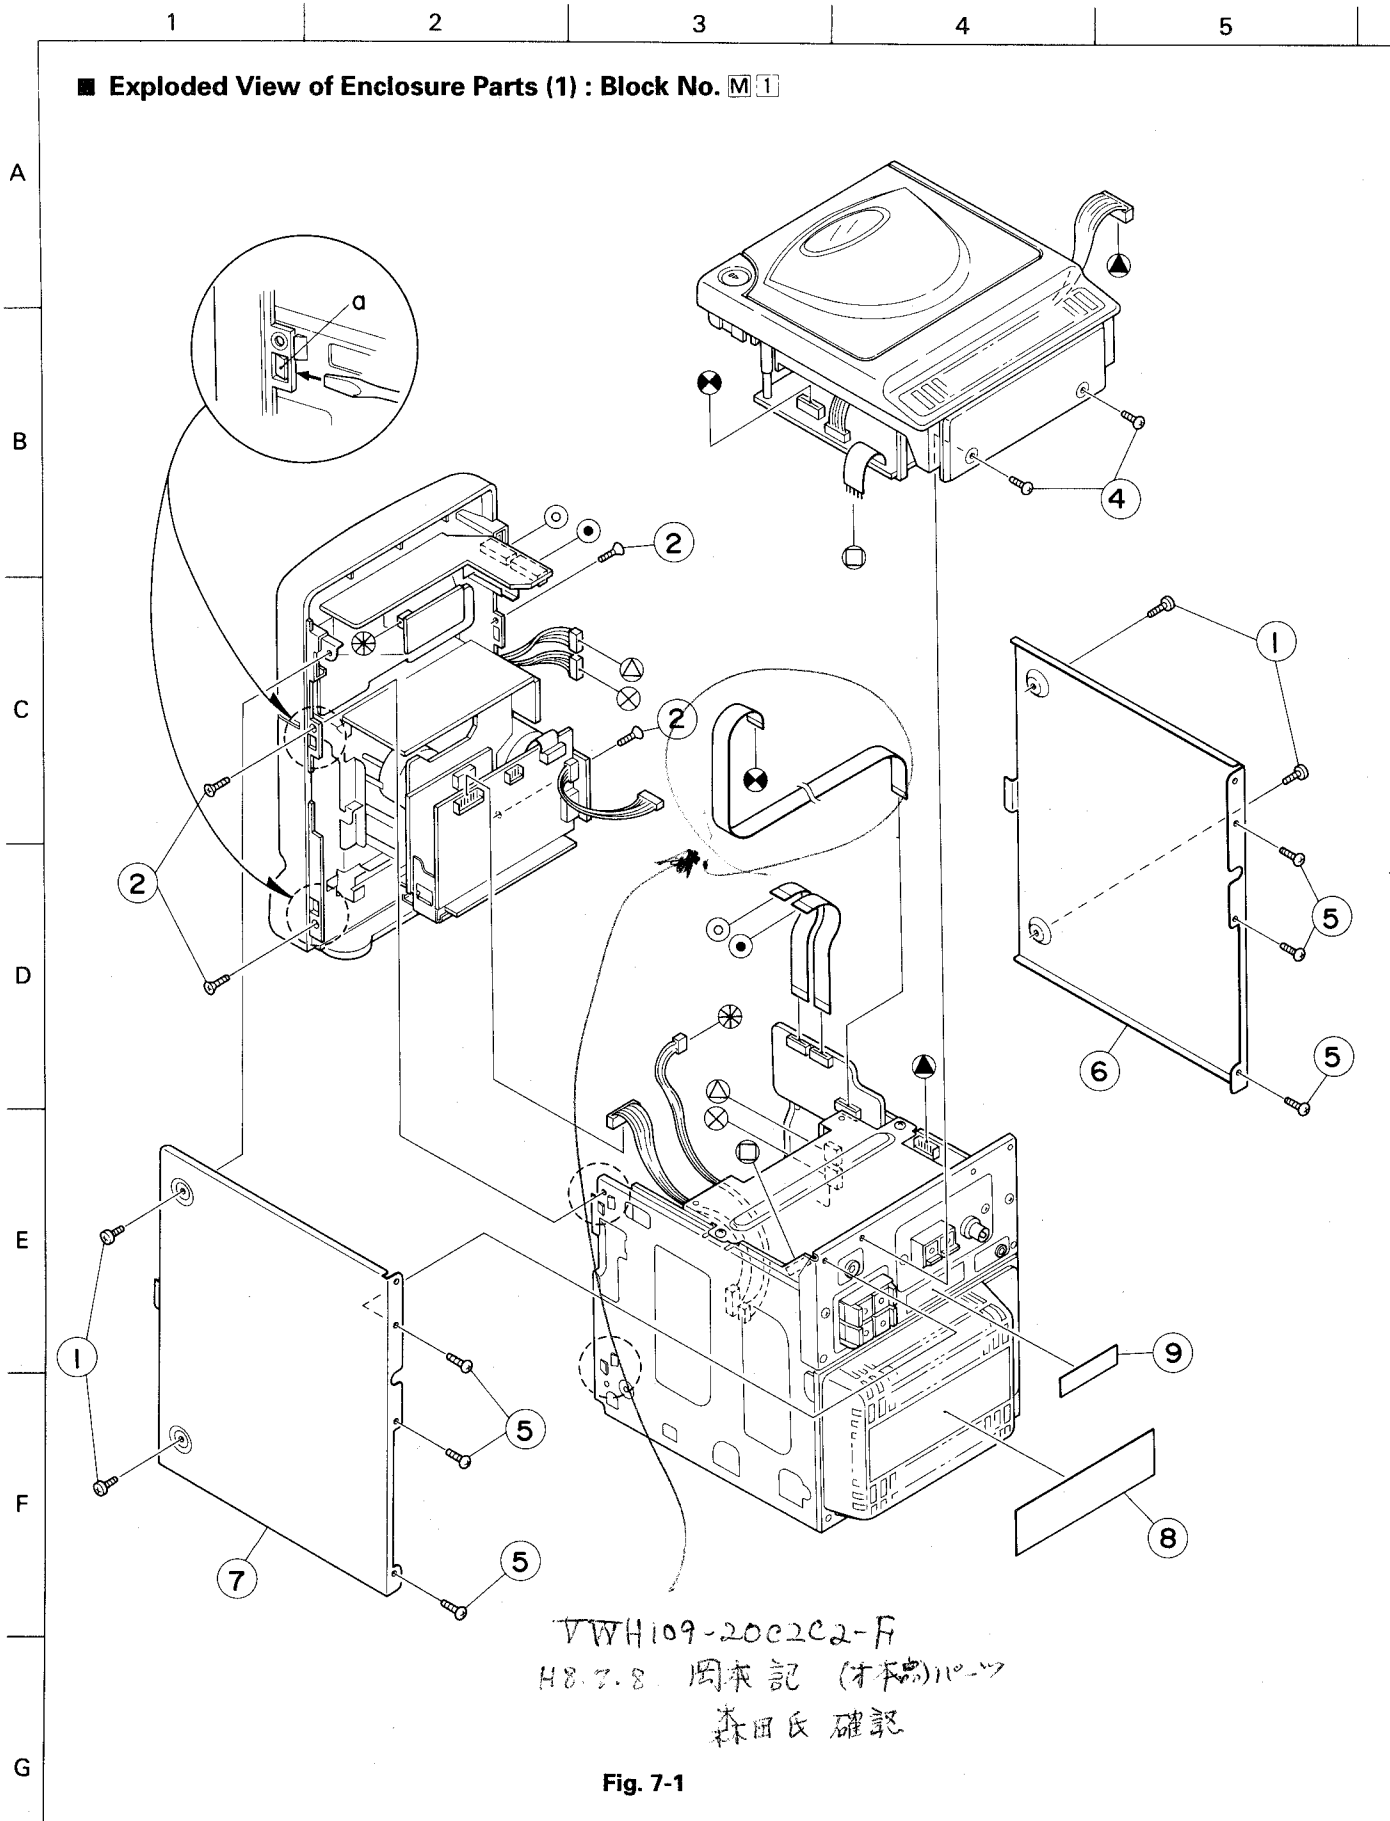

Fig. 7-1
■ Front panel assembly (Fig. 7-1)
1. Remove two screws (1) retaining the right side panel to the main unit.
2. Remove three screws (5) retaining the right side panel to the main unit.
3. Remove two screws (1) retaining the left side panel to the main unit.
4. Remove three screws (5) retaining the left side panel to the main unit.
5. Remove four screws (2) retaining the front panel assembly to the main unit.
■ CD player assembly (Fig. 7-1)
1. Remove two screws (4) retaining the CD player assembly to the rear of the main unit.
■ Enclosure parts (1) list